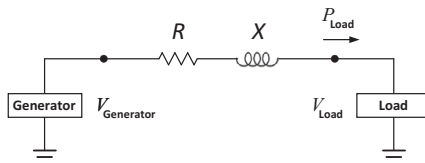

Figure 1.15 The circuit and its parameters in Exercise 1.5.
- 1.5** A small generator is trying to deliver $P_{\text{Load}} = 15$ kW of real power through a 120 V (RMS) single-phase power line to a load that has a lagging power factor of 0.9. The circuit is shown in Figure 1.15. The power line has resistance $R = 0.05\Omega$ and inductance $X = 0.1\Omega$. What RMS voltage should the generator provide on its end of the power line?